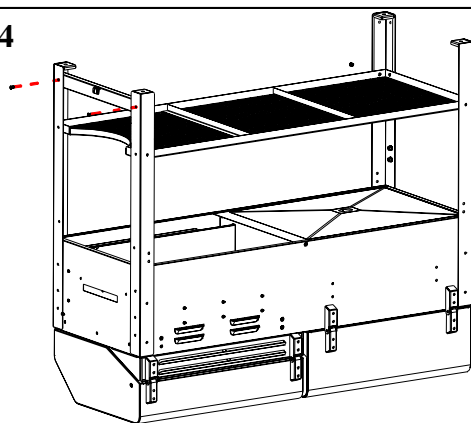

Fig. 4
*Locate:* Retaining Support and (2) M6x15 bolts.
Attach retaining support using (2) M6x15 bolts as figure 4.
Insert the threaded end of the castor wheel into the bottom of each leg as shown in Figure 4 and fully tighten with the wrench provided in the hardware pack.